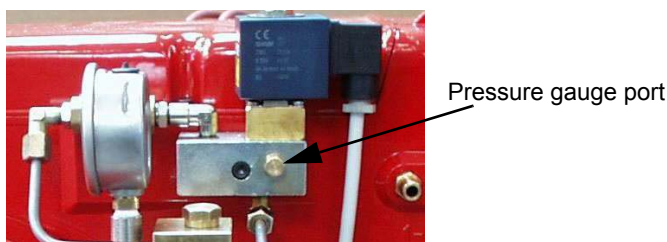
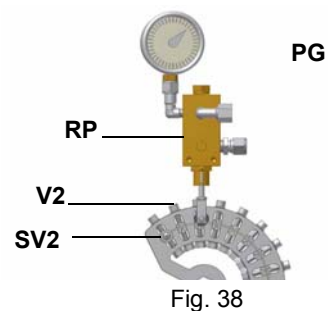

Fig. 37
Fig. 38
- 3 bleed the air from the **M** pressure gauge port (Fig. 37) by loosening the cap without removing it, then release the contactor.
- 9 the nozzle supply pressure is already factory-set and must not be changed. Only if necessary, adjust the supply pressure as follows (see related paragraph); insert a pressure gauge into the port showed on Fig. 38 and act on on the pump adjusting screw **VR** (see Fig. 37) as to get the nozzle pressure at 20bar (Monarch or Fluidics nozzles - see page 34).